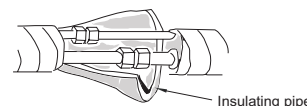

Fig.7
- (4) Wrap the indoor pipe and joint of connection pipe with insulating pipe, and then wrap it with tape. (As shown in Fig. 7)
- (5) If a 18k indoor unit is to be connected with outdoor unit, a transitional pipe joint (provided) should be added at the pipe joint of indoor unit evaporator assy as the pipe joint of evaporator assy adopts pipe diameter of $\Phi 5/8$. Please refer to step 1~4 during installation.